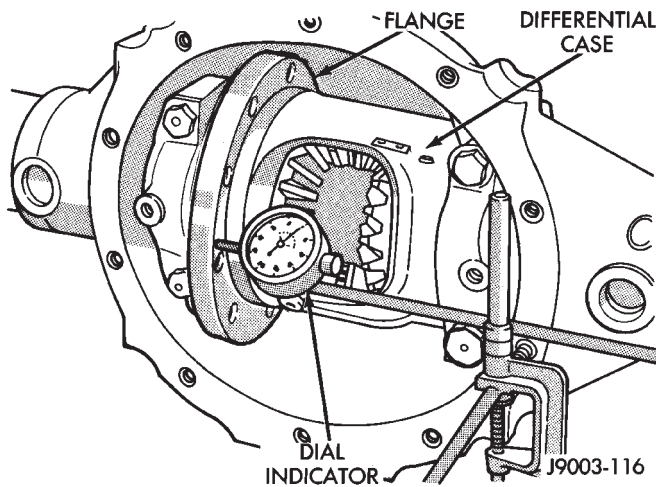

Fig. 15 Case Flange Runout Measurement
(3) Attach Dial Indicator to measure the flange runout. The plunger should contact the ring squarely between the outer edge and gear attaching bolt holes (Fig. 15).
(4) Rotate the differential case several times. Observe the dial indicator pointer. Mark the area of maximum flange runout. The differential case flange runout must not exceed 0.08 mm (0.003 inch). If runout exceeds this amount replace differential case.